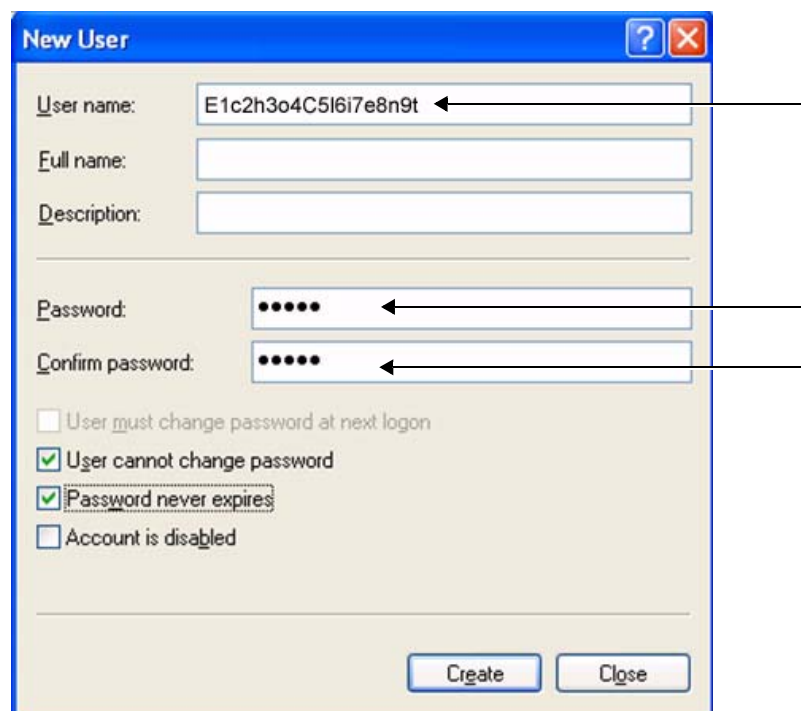

Figure 3-102 New User Dialog Box
- 6.) Configure a new user account, as follows (see Figure 3-102):